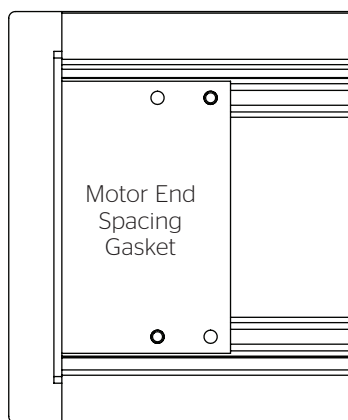

Figure 7
4. Slide the motor end spacing gasket until it makes contact with the end of the case (Figure 7).